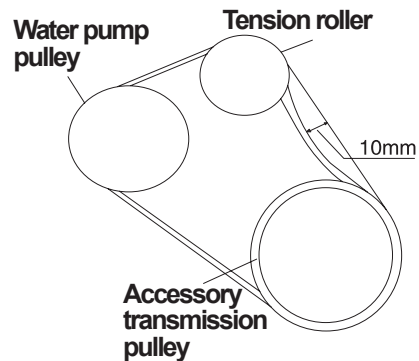

Figure 4-20
15. The water pump's driving belt (Figure 4-20)